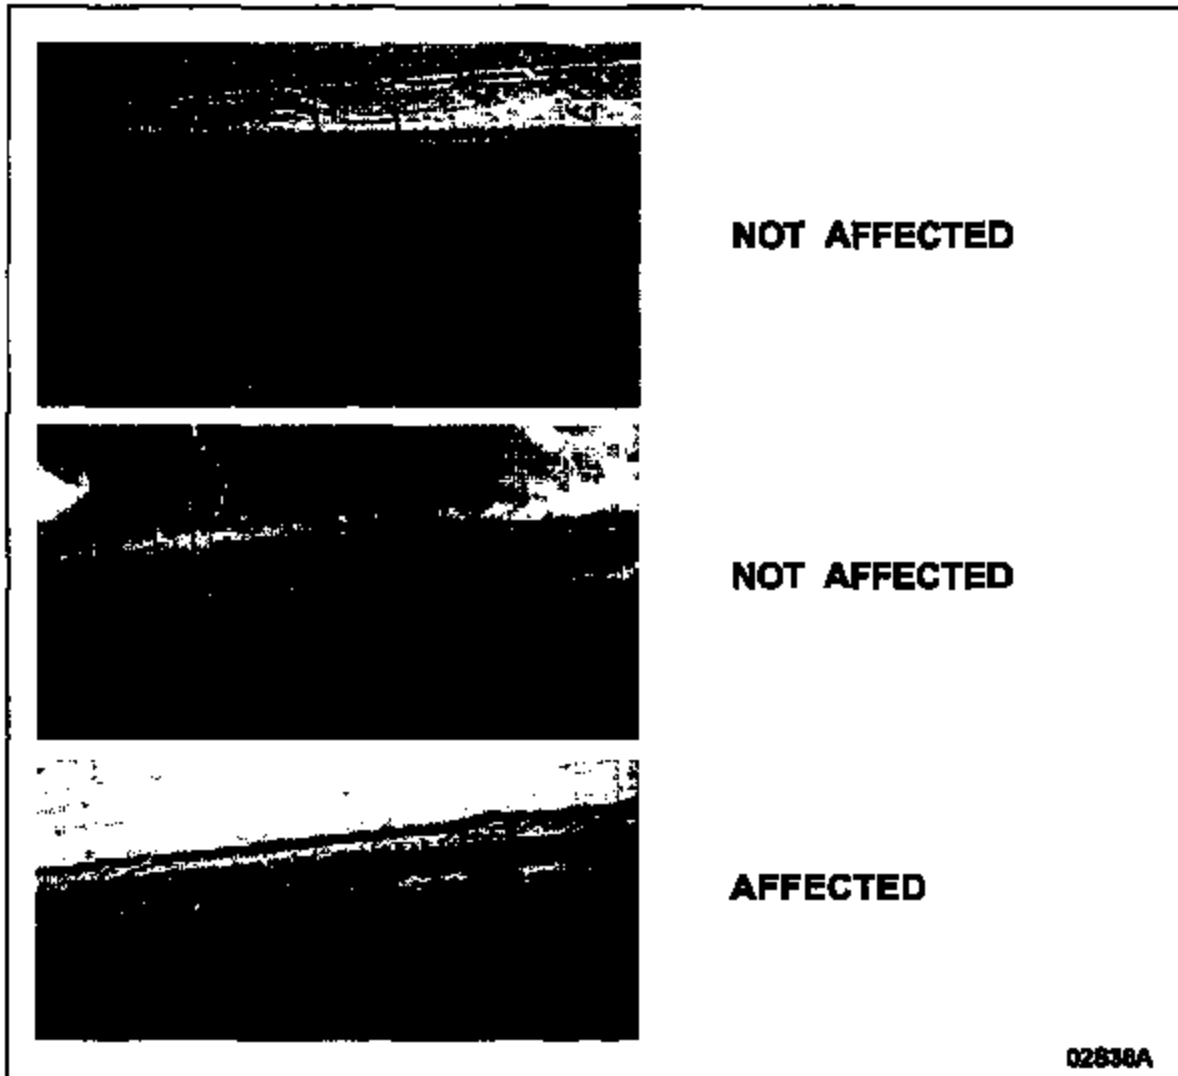

FIGURE 1
- Corrosion — Replace the brake line; continue with Brake Line Replacement. For corrosion examples, see Figure 1.